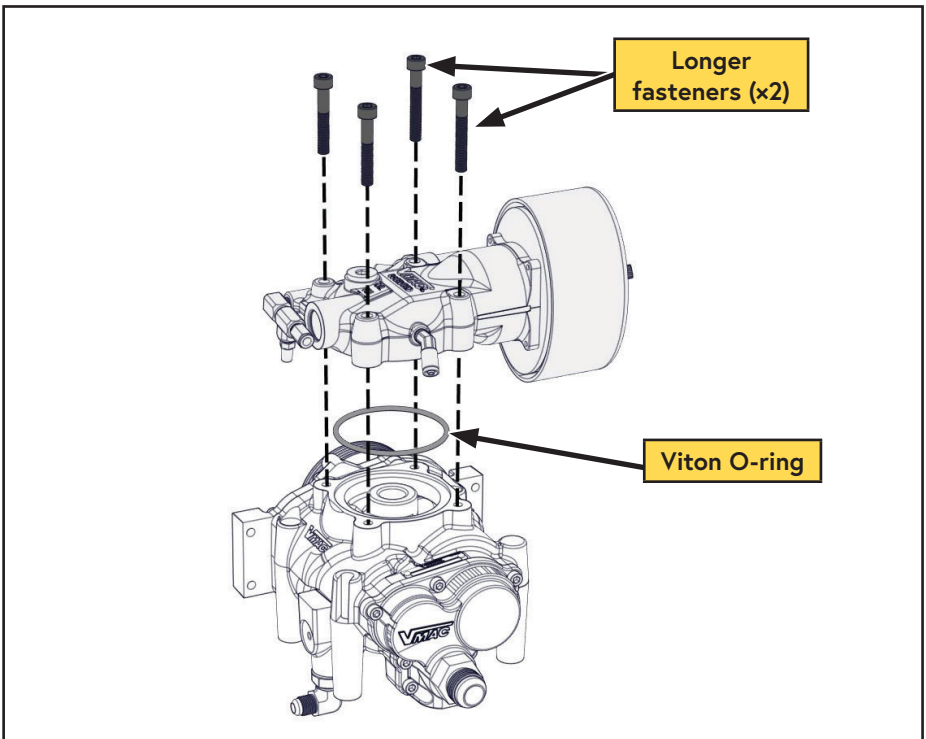

Figure 69 — Inlet valve fasteners
*The compressor inlet valve uses two different length bolts. The longer bolts are 55 mm long and the shorter ones are 50 mm long. Ensure the bolts are installed in the correct position. Installing the inlet bolts in the wrong location could severely damage the compressor (Figure 69).*